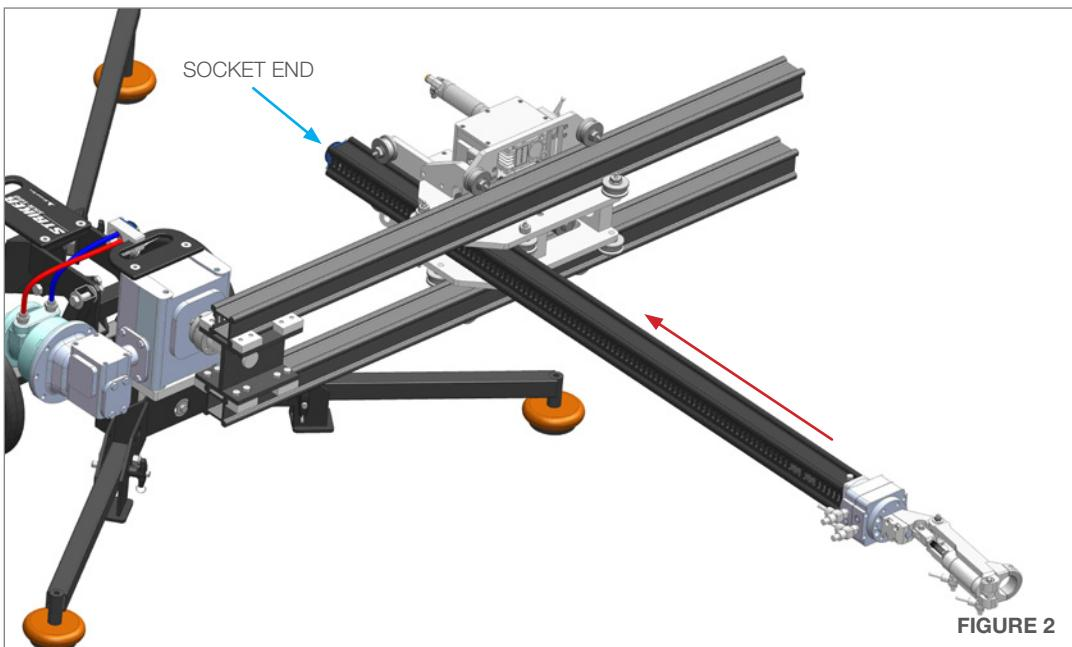

FIGURE 2
2. Install Horizontal Rail Assembly with Wrist through Carriage Assembly. (**Figure 2**). The Rotary Wrist Actuator has 270° of motion.